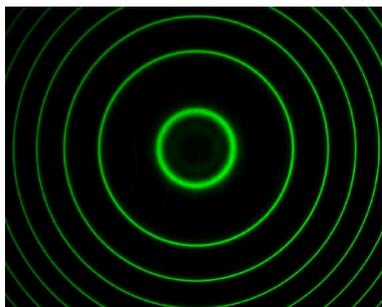

Figure 9: B=0 Pattern
18. Connect the camera to the computer via the USB port. Start the PASCO Capstone application and create a movie display. Select Record Movie with Synced Data. The image from the camera should look like the one in Figure 9. In Capstone, click on the gear icon at the top of the movie panel to open the properties, click Movie Recording, and set Frame Size to 1280 x1024. Use the large black knob to move the lens left and right to make the pattern equally bright on each side. Use the other adjustment screws on the lens to make the illumination even vertically and horizontally.